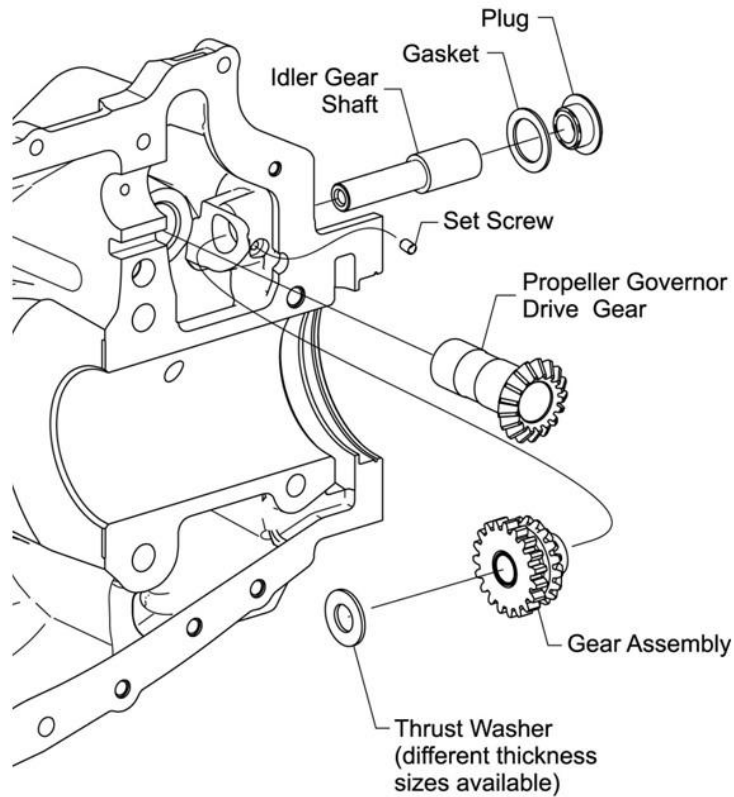

Figure 1
3. Remove the safety lockwire, plug, and gasket (Figure 1) from the front of the crankcase. Discard the gasket and safety lockwire.